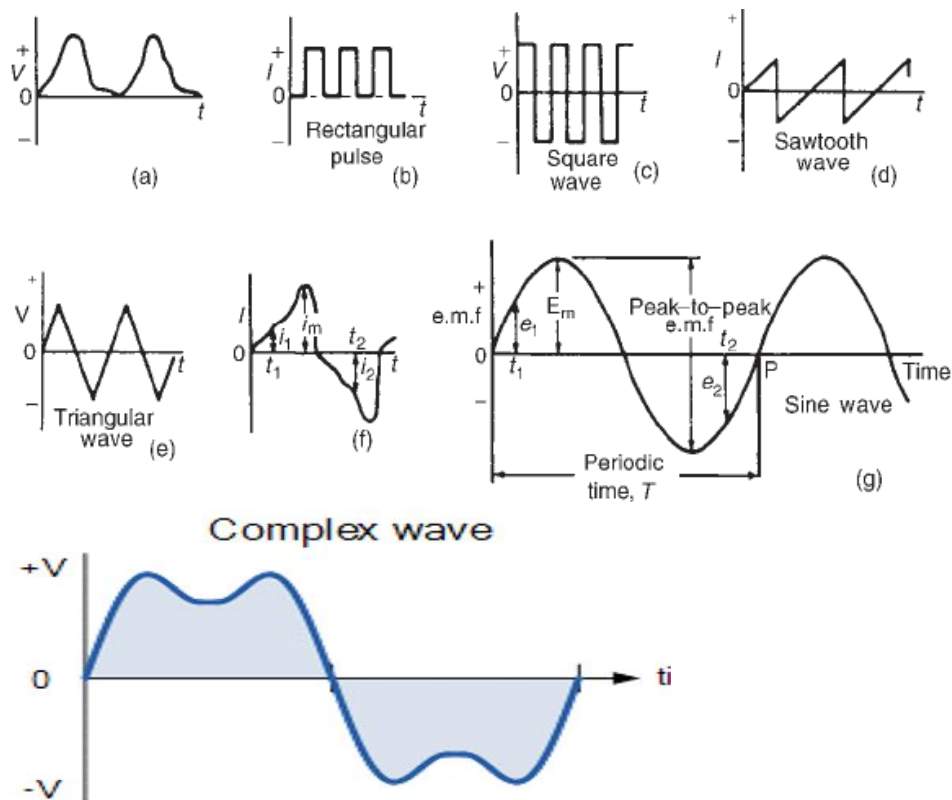

Figure 2: Types of electric signal waveforms
Some typical waveforms are shown in Figure 2.
- Waveforms (c) to (g) are called **alternating waveforms** since their quantities are continually changing in direction (i.e. alternately positive and negative). A waveform of the type shown in Figure 2 (g) is called a **sine wave**. It is the shape of the waveform of e.m.f. produced by an alternator and thus the mains electricity supply is of '**sinusoidal form**'.
One complete series of values is called a **cycle** (i.e. from O to P in Figure 2 (g)). Basic properties of alternating current include the following list
a. Period: The time taken for an alternating quantity to complete one cycle is called the **period** or the **periodic time (T)**, of the waveform. In the figure 2. g) It is the time taken from O to P.